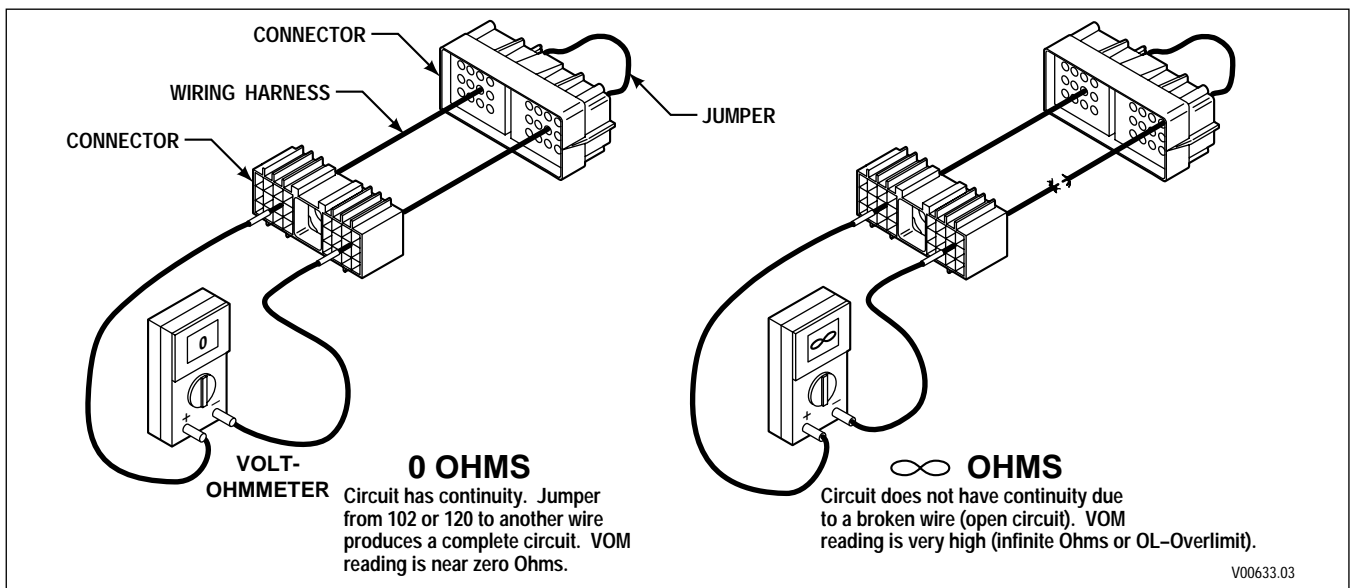

Figure 4-1. Open Circuit
- a. Check continuity of wires 102 and 120 by performing the following (refer to Figure 4-1):
- (1) Disconnect both connectors at the ECU and disconnect the harness from the transmission main connector. At one end of the harness, using jumper wire kit J 39197, connect wire 102 and 120 to each other, being careful not to distort the terminals. Jumping the wires together creates a circuit between wires 102 and 120.
- (2) On the opposite end of the harness, check the continuity of the jumpered pair. No continuity in a jumpered pair circuit (infinite resistance reading) indicates an open in the wire being tested. Locate and repair the damaged portion of the wire.